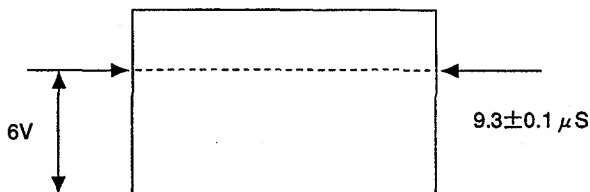

Fig.5-3
4. Observe the anode of TP300 or D516 with an oscilloscope, and adjust H-BLANKING so that the waveform will be as shown in Fig.5-3.